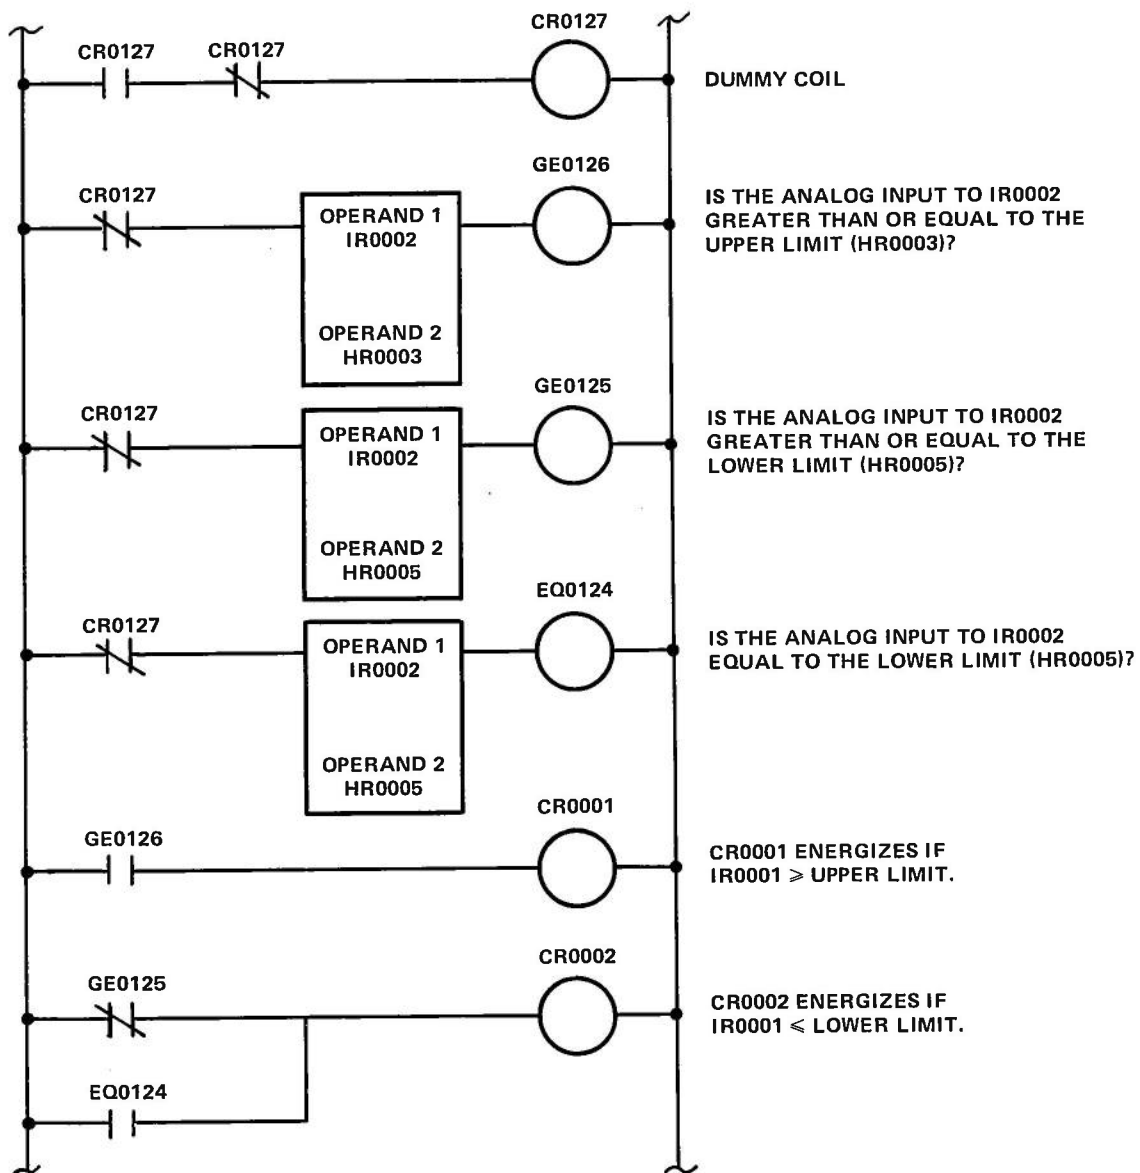
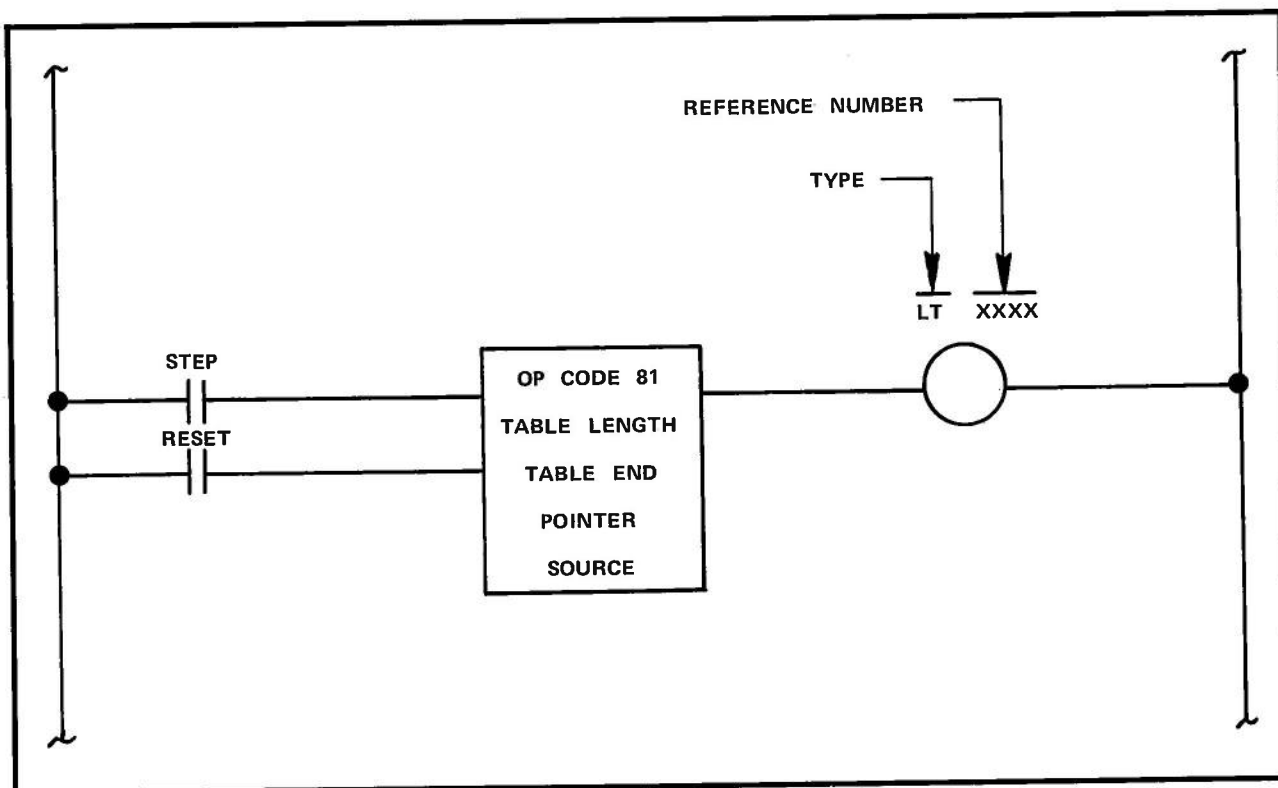

Figure 2. Limit Comparisons
Figure 1. FI Function
The GE/EQ functions allow monitoring of an analog input within a range of values. In the Add (AD)/Subtract (SB) functions, a method of setting a range around a set point is discussed. Using the limit registers established in that example, HR0003 holds the upper limit, and HR0005 holds the lower limit, as shown in Figure 2.
The FIFO Stack function is a combination of two functions: the First In Stack (FI) function, and the First Out Fetch (FO) function. In FIFO Stack, the first data entered is the first data retrieved. FI function symbology is shown in Figure 1; FO function symbology is shown in Figure 2.